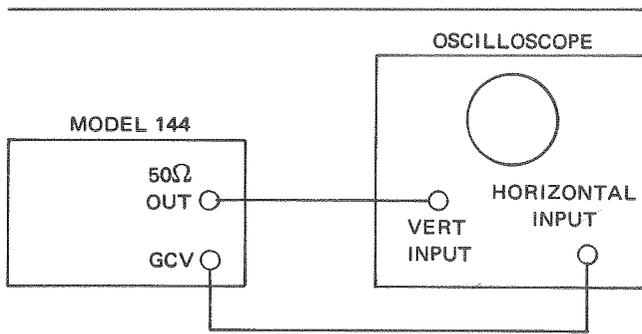

Figure 2-7 - Set-Up Procedure
These modes together with the GCV output can be used, to accurately adjust the sweep limits over a preselected frequency range. The set-up procedure shown in Figure 2-7 utilizes an oscilloscope, however an X-Y recorder or a counter could be used in a similar manner.
4. With the generator connected to the oscilloscope as shown in Figure 2-7, and the oscilloscope in the external horizontal mode, adjust the horizontal position so that the waveform is positioned on the left reticle of the oscilloscope.